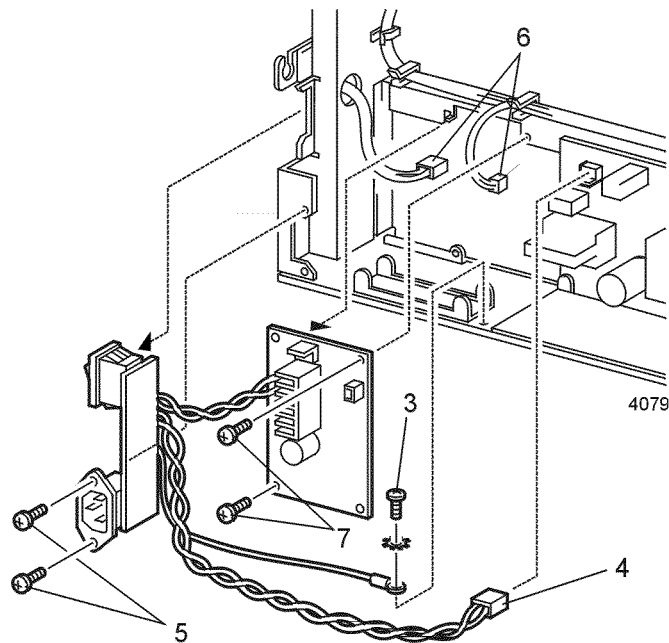

Figure 1 AC Input Assembly
6. Disconnect P/J171 and P/J172 from the AC Input PWB (Figure 1).
7. Remove the two screws that secure the AC Input PWB to the LVPS Assembly (Figure 1).